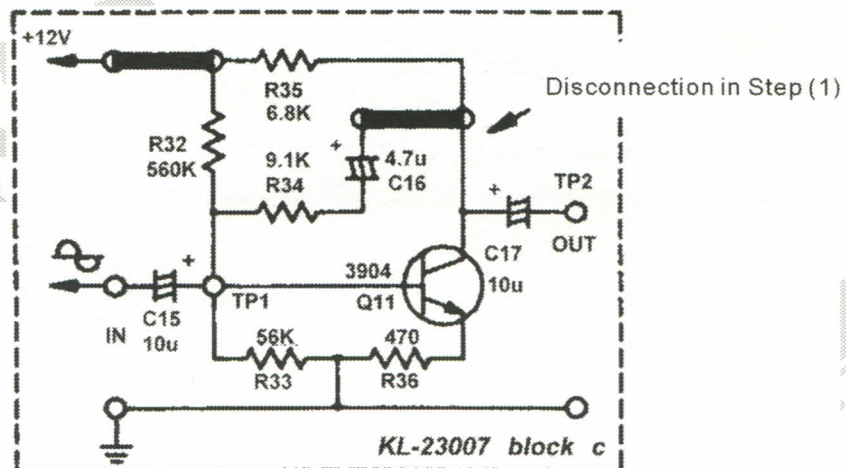

Fig 10-3 (Fig 23007-block c.1)
- (1) Insert the short-circuit clip by referring to Fig 10-3 and the short-circuit clip arrangement diagram 23007-block c. The negative feedback is disconnected (short-circuit clip is not connected to R34 C16 circuit).
- (2) Use multimeter (DCV) to measure V_{c17} (the voltage at collector of the transistor).
- (3) Connect signal generator and oscilloscope in the input terminal (IN), and connect oscilloscope to the output terminal. Adjust the output of signal generator to 1KHz sine wave and gradually increase the output voltage so that the oscilloscope can display maximum non-distorted waveform in the output terminal. View and record the waveforms in IN and OUT respectively.
- (4) Connect the negative feedback circuit (short-circuit clip is connected to R34 C16 circuit).
- (5) Repeat Step (2) (3).
- (6) Adjust the output of signal generator to 10Hz~20KHz, then view the frequency response for both the circuits with negative feedback and without negative feedback. The frequency response curves of A_v corresponding to f shall be plotted in Table 10-2 (b) (c).